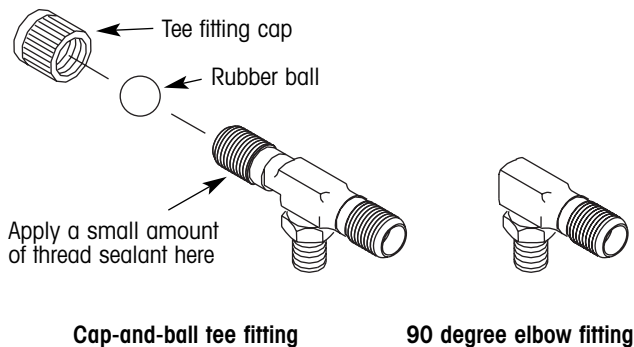

Figure 3. Wide-based tire configuration fittings
2. On wide-based tire configurations only, two styles of fittings exist — a cap-and-ball tee fitting or a 90-degree elbow fitting. If you have the cap-and-ball tee fitting, install the tee fitting cap before screwing the tee fitting onto the rotary joint bulkhead adapter. **Apply a small amount of thread sealant** on one end of the tee fitting and screw the cap on the same end of the tee fitting (figure 3). Tighten the cap to 12 - 18 ft. lbs. (16 - 24 N•m) of torque. If you have the 90 degree elbow tee fitting, proceed to step 3.